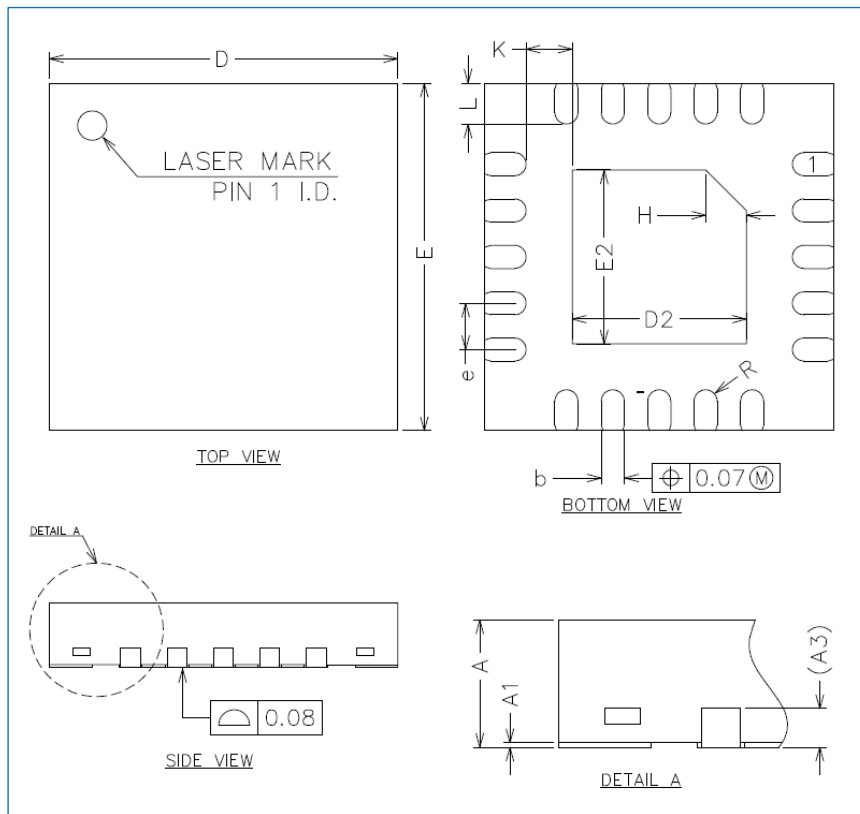

Figure 7-3 QFN20 package 3 outline
- 3 mm × 3 mm, 0.4 mm pitch (0.55 mm thick) package (as shown in Figure 7-3): HK32F0301MF4S6